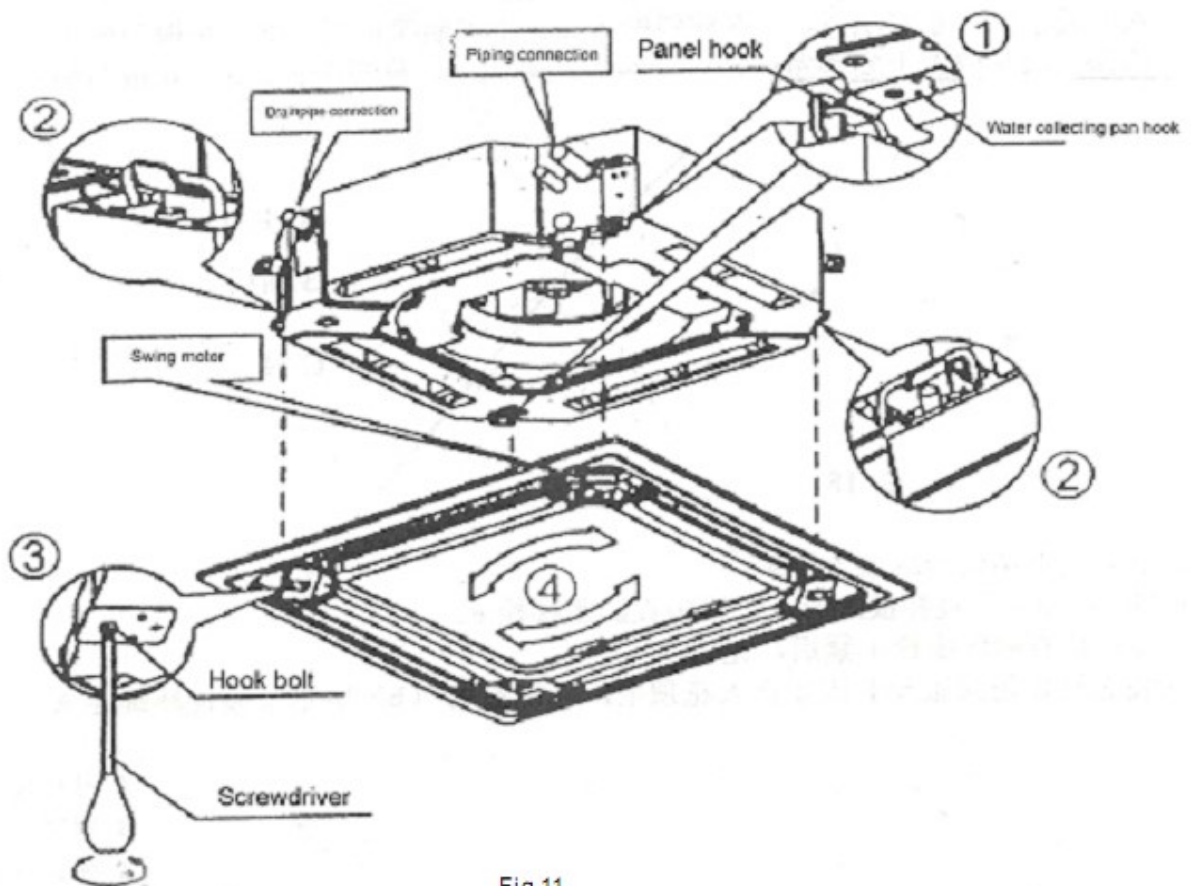

Fig 11
- (1) Point the swing motor on the panel straight to the tubing side of the main unit (See Fig 11);
- (4) Adjust the four hook bolts to keep the panel level and evenly lift it to the position close to the ceiling (as shown in Fig 11③)
(5) Slightly adjust the panel following the arrow direction (Fig 11④) to keep the center of the panel in line with that of the ceiling opening. Check whether the hooks on four corners are put up.